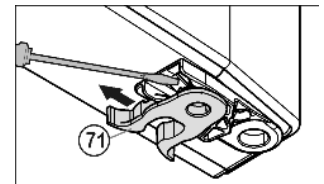

Fig. 9
- ▶ Transfer the spring clamp *Fig. 9 (71)*: Depress the latch nose and pull the spring clamp off over it.